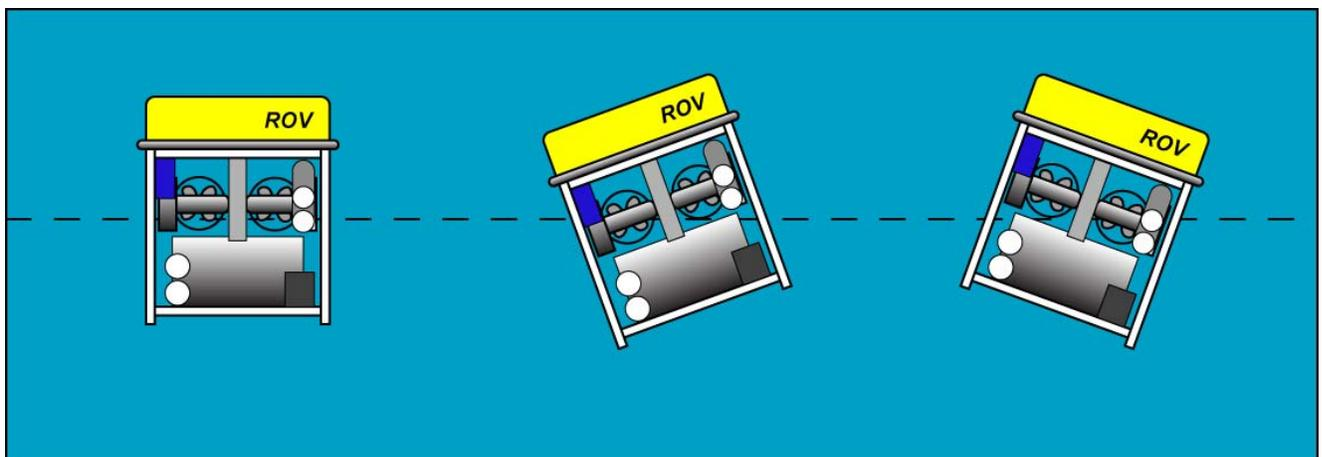

Figure 2: No Roll
- Trim: The rotation of a vehicle from side to side. See Figure 2.